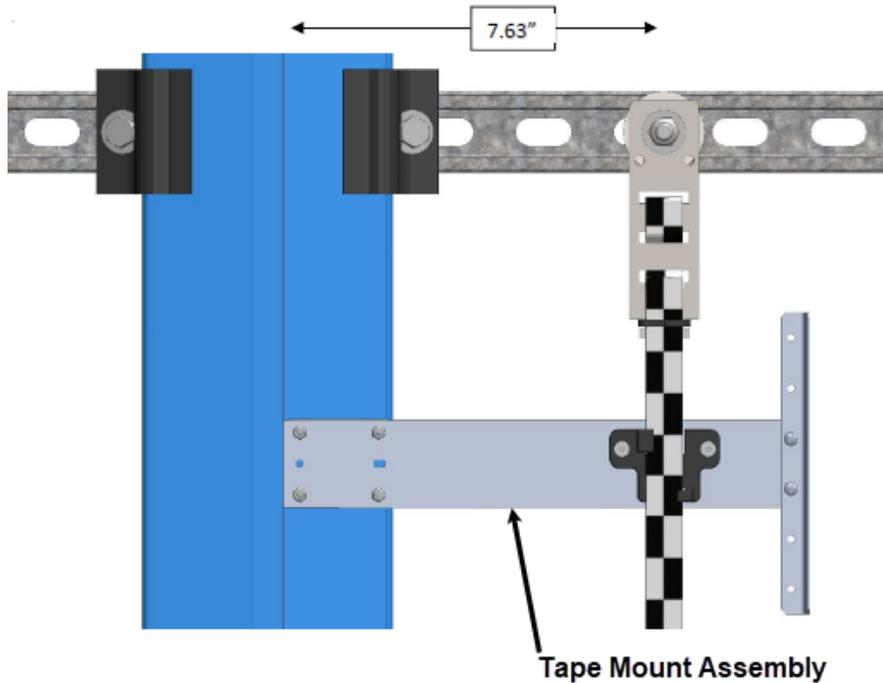

Figure 8: Upper Tape Unistrut Installation
3. Position the Upper Tape Mount assembly 7.63" from the wheel surface of the guide rail to the center of the 3/8" bolt. See Figure 8.